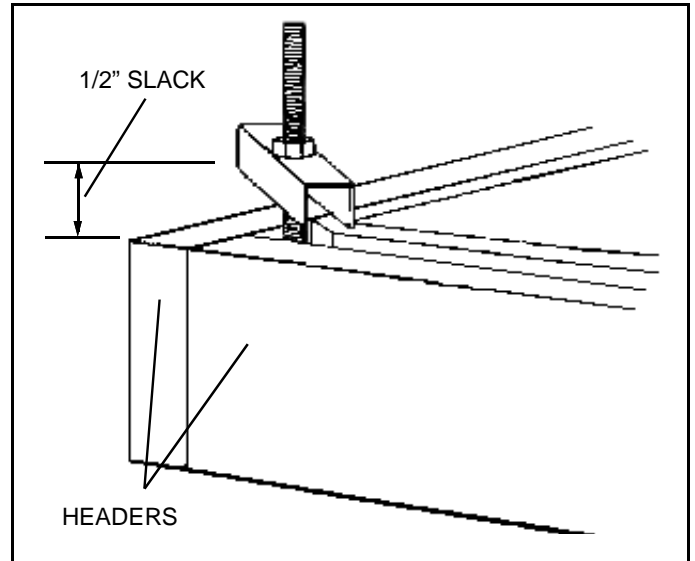

Figure 7
3. Starting at one end, slide a joist hanger onto the threaded rod and thread nut down until there is only about 1/2" slack. **Do not tighten fully.** Turn joist hanger at a 45 degree angle to span the frame corner. Figure 7. Repeat the process until all hangers are installed. With hangers holding stair in place, helpers can let go.
6. Attach door opening hook to wood dowel using (2) 1/2" wood screws.